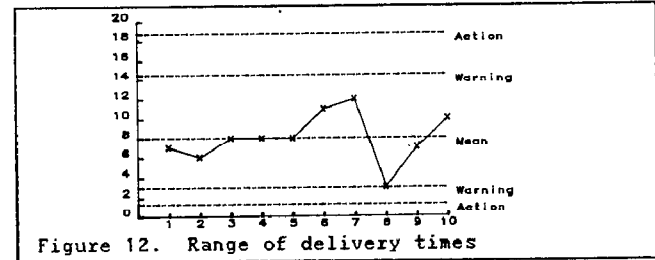

Figure 12. Range of delivery times
**RANGE CHART** Associated with an Xbar chart to look at the variability within small samples (Figure 12)